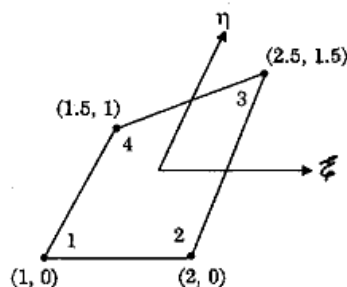

Fig. 15(a)
15. (a) Evaluate the Jacobian matrix for the linear quadrilateral element as shown the Fig. 15(a).